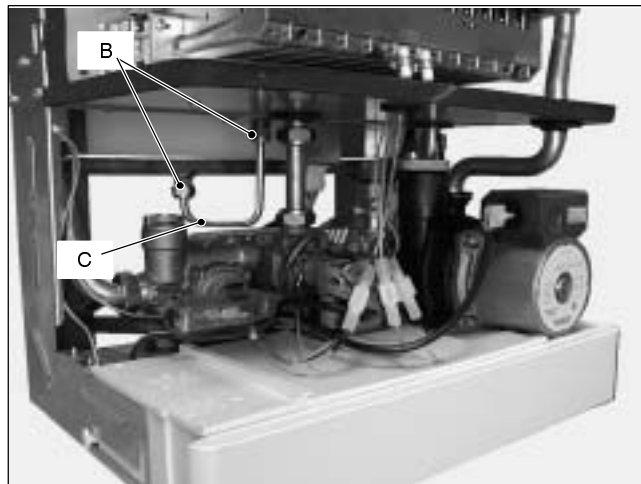

Fig. 15
- 4 Completely unscrew the two connections B and remove the pipe C (Fig. 15).